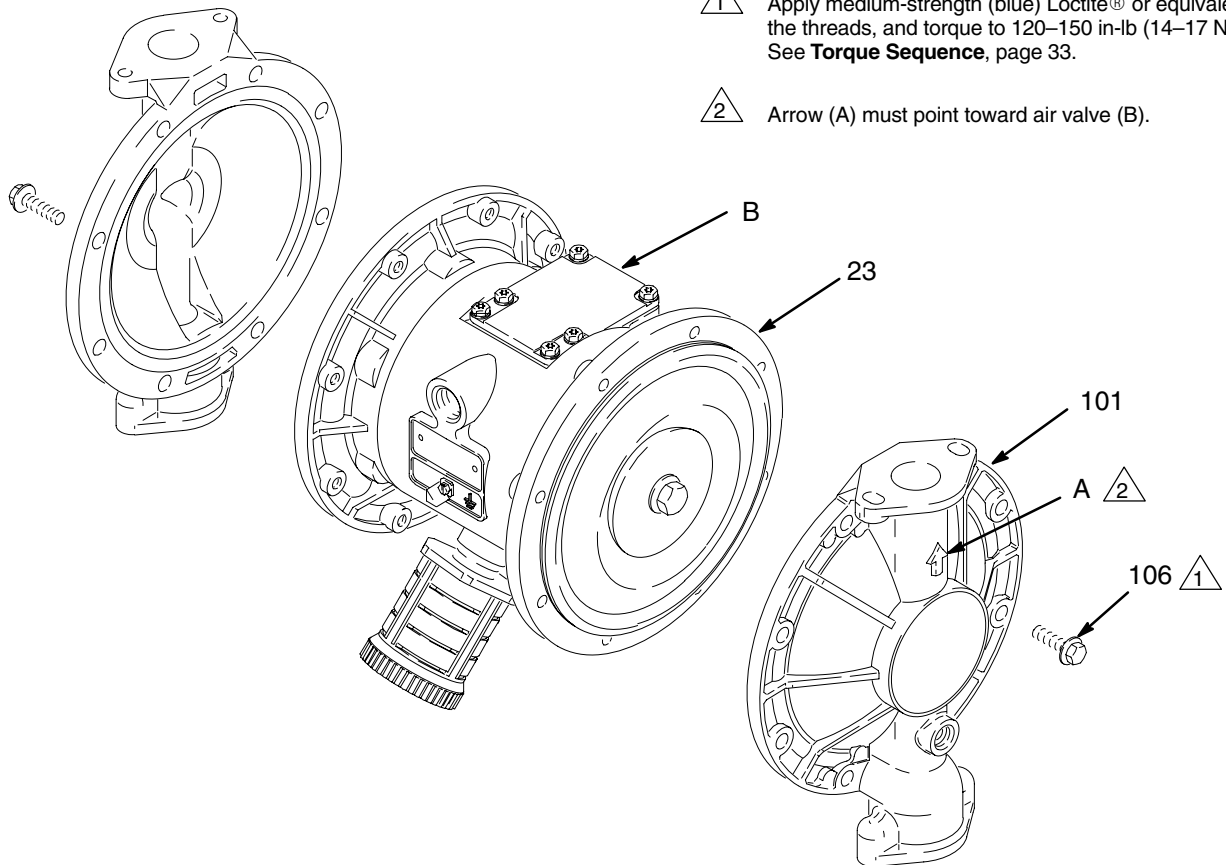

Fig. 13
3. Using a 10 mm socket wrench, remove the screws (106) holding the fluid covers (101) to the air covers (23). Pull the fluid covers (101) off the pump. See Fig. 13.
- On PTFE models only,* install the PTFE diaphragm (403*). Make certain the side marked AIR SIDE faces the center housing (1).
- Install the diaphragm (401*) on the bolt. Make certain the side marked AIR SIDE faces the center housing (1).
- Install the air side diaphragm plate (104) so the rounded side faces the diaphragm (401). This plate is used on all models, and is stamped with its part number.
- Apply medium-strength (blue) Loctite® or equivalent to the bolt (107) threads. Screw the bolt into the shaft (24) hand tight.
- Grease the length and ends of the diaphragm shaft (24), and slide it through the housing (1).
- Hold one shaft bolt (107) with a wrench and torque the other bolt to 20–25 ft-lb (27–34 N•m) at 100 rpm maximum.
- Align the fluid covers (101) and the center housing (1) so the arrows (A) on the covers face the same direction as the air valve (B). Apply medium-strength (blue) Loctite® or equivalent to the threads of the screws (106). Secure the covers with the screws handtight. See Fig. 13. Using a 10 mm socket wrench, torque the screws oppositely and evenly to 120–150 in-lb (14–17 N•m). See **Torque Sequence**, page 33.
1. Lubricate and install the shaft u-cup packings (402*) so the lips face **out** of the housing (1). See Fig. 13.
2. Assemble the air side plate (104) onto the diaphragm (403). The wide, radiused side of the plate must face the diaphragm. Apply medium-strength (blue) Loctite or equivalent to the threads of the diaphragm assembly. Screw the assembly into the shaft (24) hand-tight.
3. Grease the length and ends of the diaphragm shaft (24). Insert the shaft/diaphragm assembly into one side of the pump. Align the fluid cover (101) and the center housing (1) so the arrow (A) faces the same direction as the air valve. Secure the cover with the screws (107 and 108), handtight.
4. Torque the longer screws (108) oppositely and evenly to 190–220 in-lb (21–25 N•m), using a 13mm socket wrench. Then torque the shorter screws (107). See **Torque Sequence**, page 33.
7. Align the fluid cover (101) and the center housing (1) so the arrow (A) faces the same direction as the air valve. Secure the cover with two of the longer screws (108), handtight.
8. Torque the longer screws (108) oppositely and evenly to 190–220 in-lb (21–25 N•m), using a 13mm socket wrench. Then torque the shorter screws (107). See **Torque Sequence**, page 33.